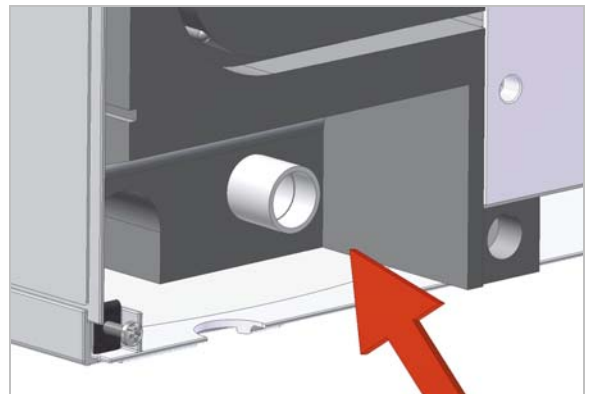

Figure 12: Condensate Stub Disk Removal (Rear of Unit)
2. Remove the knock-out disk from the end of the condensate stub at the rear of the unit (see Figure 12).